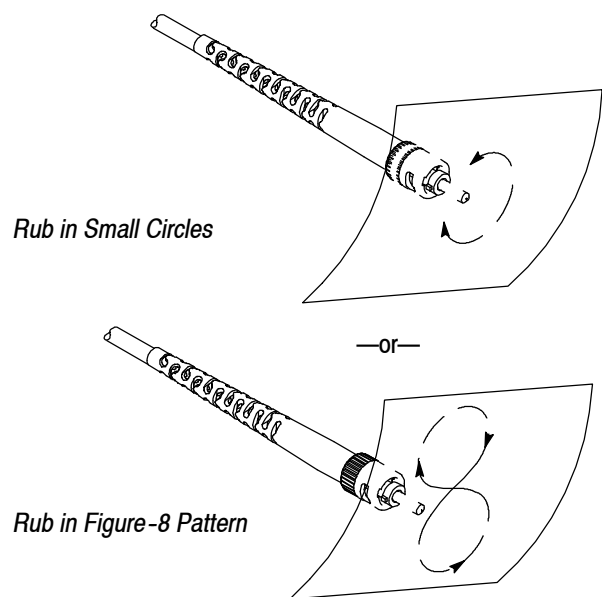

Figure 16
2. While holding the polishing film in the air, form a concave shape and air polish the connector tip by gently rubbing the tip of the connector in small circles or figure-8 patterns until the protruding stub of the cleaved fiber is flush with the ferrule surface. Refer to Figure 16.